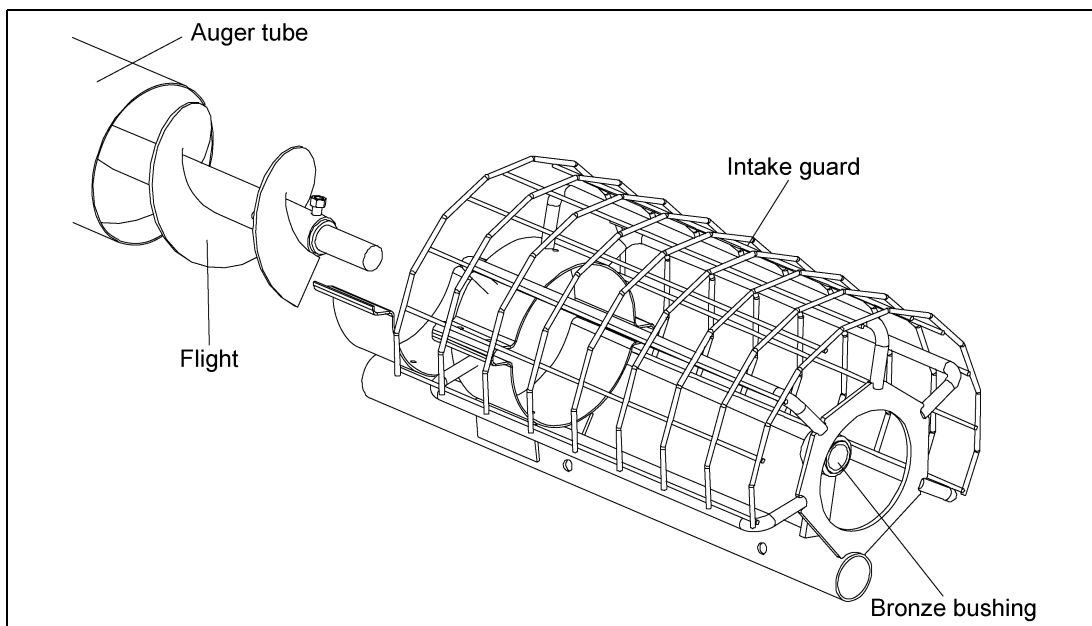

Figure 4V
- Slide the intake guard onto the auger tube aligning the intake shaft with the bronze bushing. (See Figure 4V.)